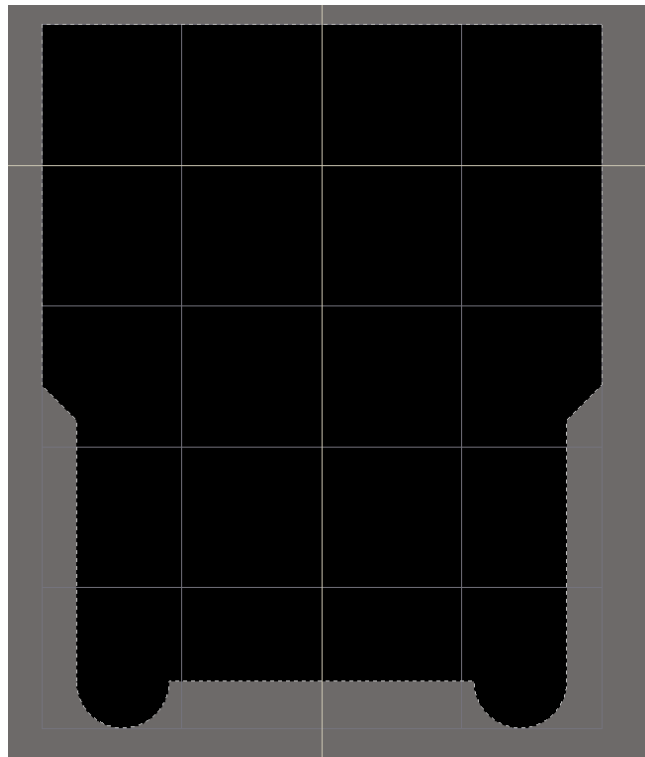

Figure 14. Final Board Shape created from a DXF outline
47. Select **Design » Board Shape » Define from Selected Objects** to create the new board shape as shown in Figure 14.